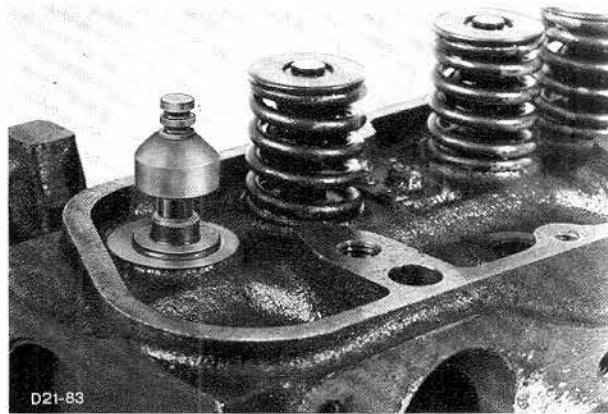

Fig. 91. Seal on valve stem.
6. Fit a new seal to valve stem, Fig. 91. Install valve spring by proceeding in reverse order to that described in step 5. Remove Special Tool.